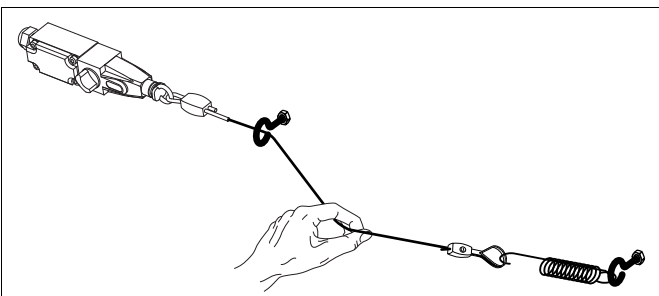
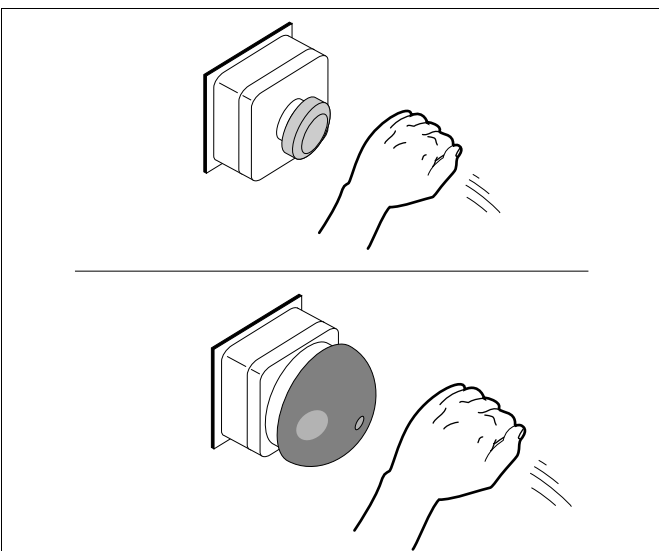
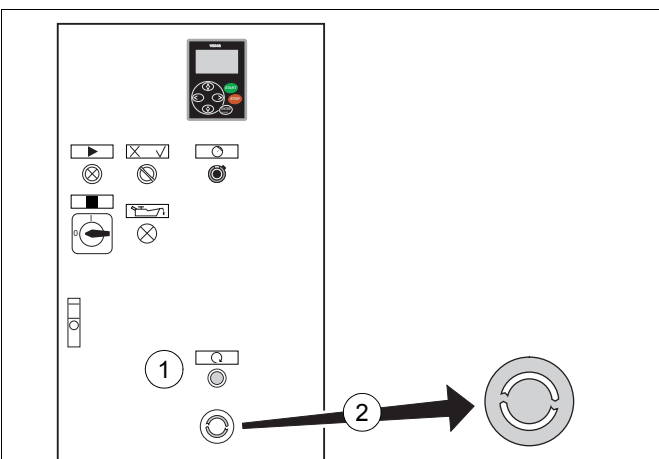

fig. 6 Emergency stop cord
fig. 7 Emergency stop cord
fig. 8 Emergency stop button on the Control Panel
See fig. 6, fig. 7 and fig. 8.
3. Press reset button 1 to reset the emergency stop error. See fig. 8.